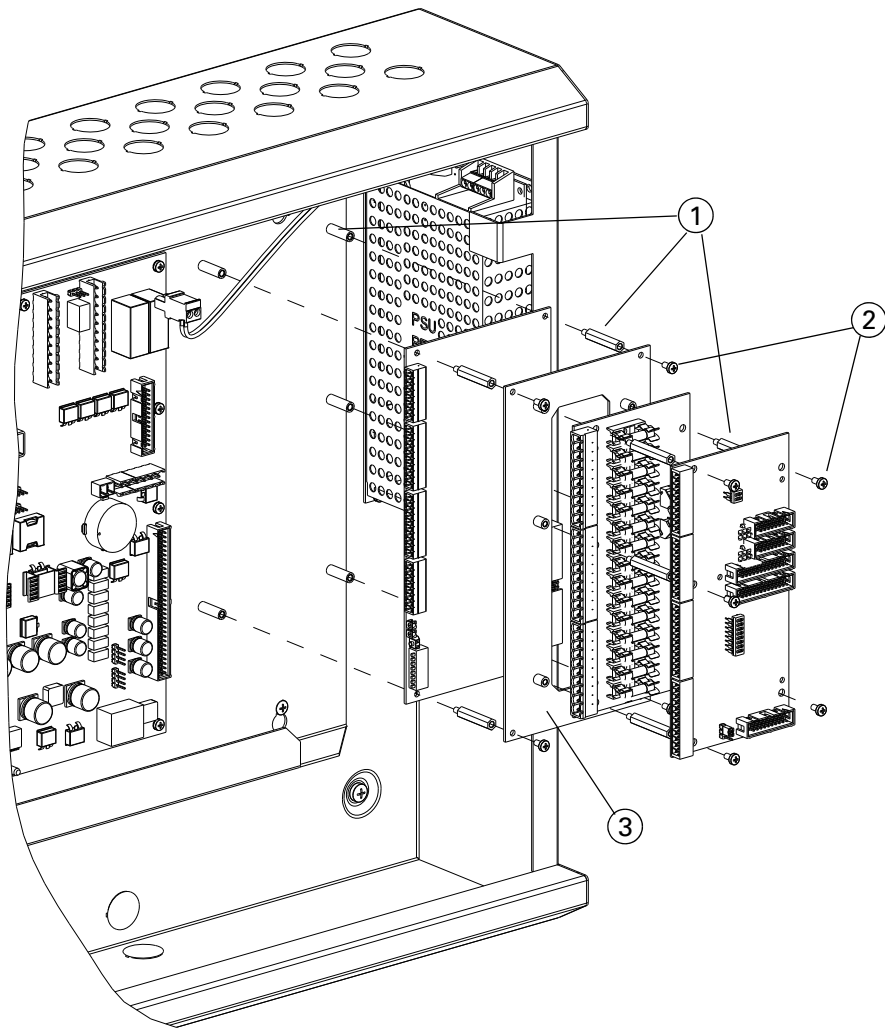

Fig. 28: Mounting Boards on a FC702S Panel
You can mount the PNI800, IOB800, and the FB800 boards on the FC702S panel using the pillars, washers and nuts that are supplied with the boards. A maximum of three of these boards can be fitted. Ensure that you fit the larger boards (such as the PNI800) before small boards (IOB and FB800). The old cards holder (120.008.130) is supplied with the optional P-EXP Panel Expansion Kit (557.202.807). Refer to Fig. 28 and complete these steps:
- 3 Put the first board on top of the pillars provided (item 1 in Fig. 28). Secure the board using washers and screws if this is the only board being used, or a pillar, if you are inserting more boards. If fitting a PNI800, connect the 50way connector closest to the FC-FI to the connector on the PNI800 PCB. If you fit a second board of this type, use the next 50way connector for this board.
- 4 If you are using one or more small boards (for example, the IOB800 or FB800), use the adapter plate (item 3 in Fig. 28). Screw the adapter plate into the last big board in the sequence, or directly onto the back wall of the housing panel if there are no larger boards. Use the washers and screws provided.